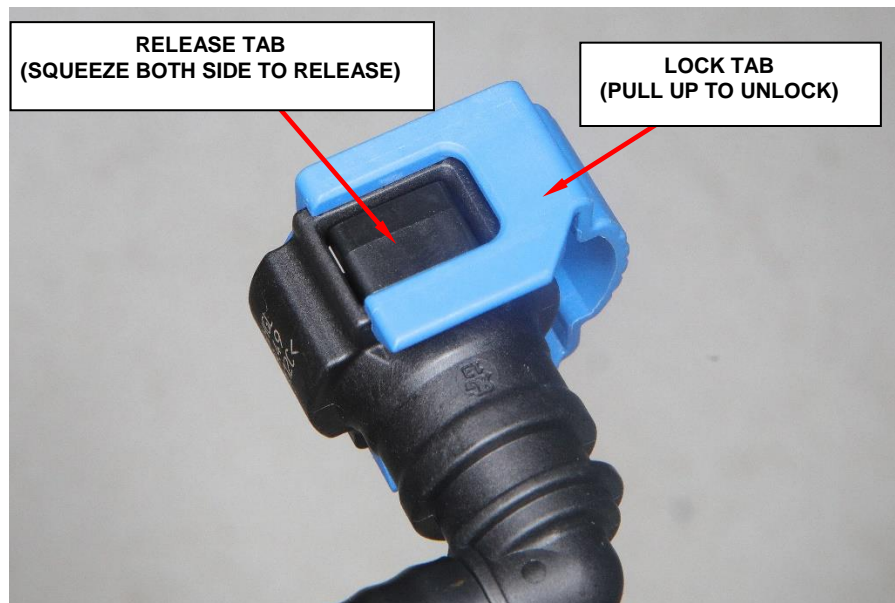

Figure 12 – Fuel Line Lock
20. Unlatch the upper fuel line by pulling up on the tab, squeeze both sides of the fuel line latch to release the fuel line (Figure 12).